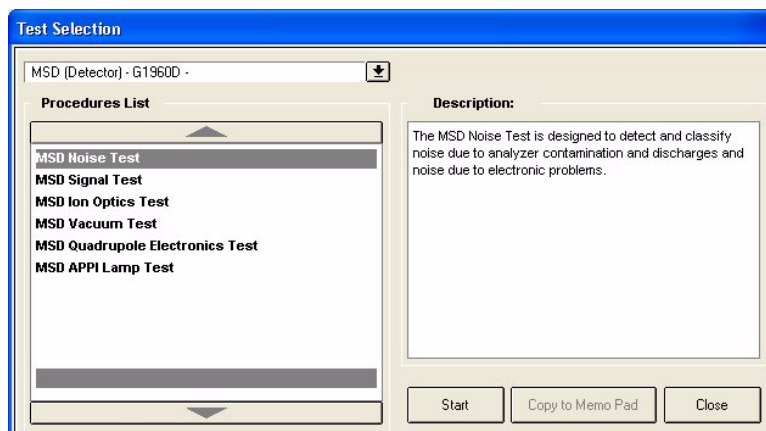

Figure 65 Diagnostic tests for the MS
- **Show Module Tests** – Display a list of diagnostic tests for that module, as shown in Figure 65 on page 118.
There are a number of preprogrammed diagnostic tests that you can access for each module in your system. You can display a complete list of tests for each module by clicking the module icon in the instrument panel and selecting **Show Module Tests**. Figure 65 shows the tests for the MS.